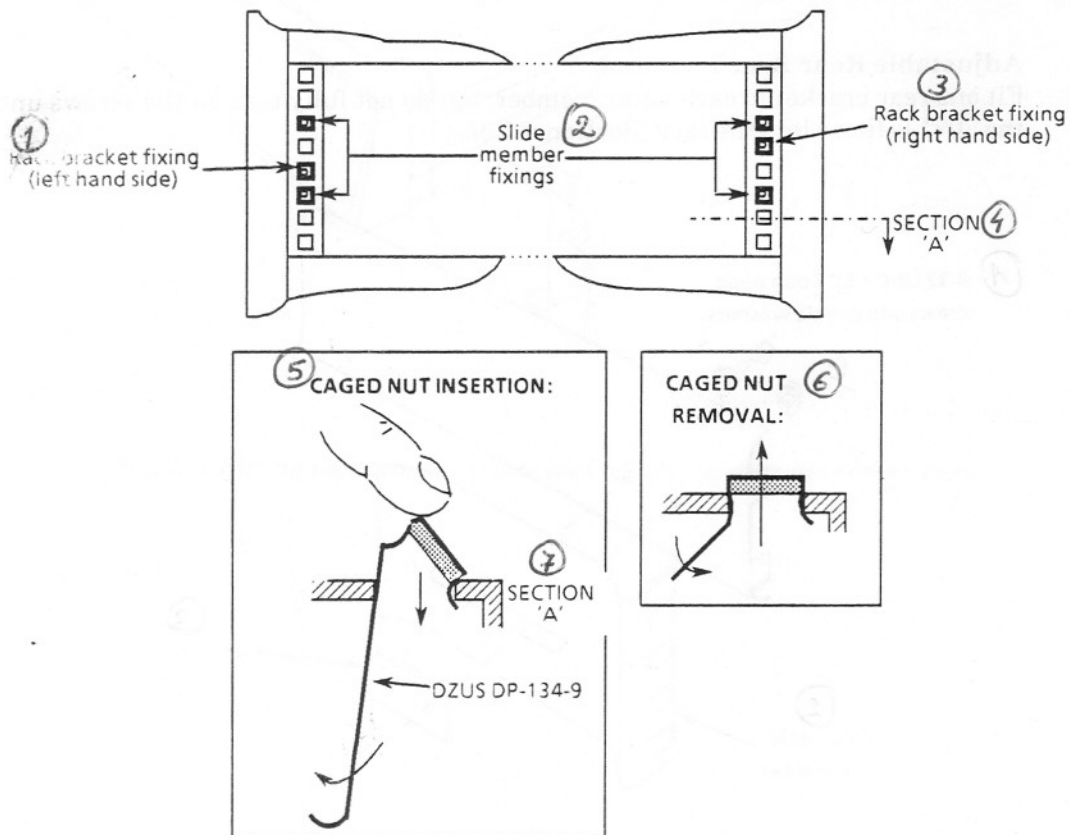

Fig. 2.7 *Caged nut insertion in Imrak Series 80 (and similar) cabinets*
- 4.3.4 Fit the M6 caged nuts for outer slide member and rack slide member and rack mounting bracket fixing into the rack, in the positions shown in Fig. 2.7 How to insert and remove caged nuts is shown in the figure detail.